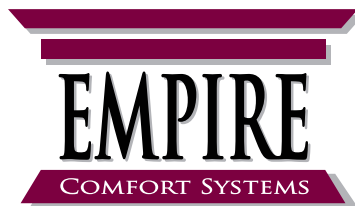

**Figure 6**
- Once both ends of the liner have been securely positioned and retained, check to see that the liner is centered left to right. This can be done visually by check the distance the radius corners are positioned in relation to the rear corners of the burner screen. **See Figure 6.**